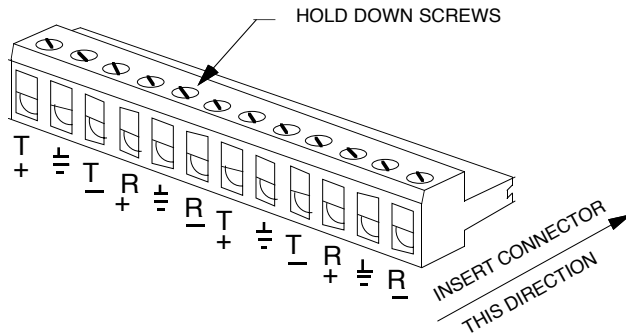

Figure 4 - Typical Mating Connector
Eight 12-pin connectors on the rear panel of the 2083/06 are used for transmitting and receiving codes with Pelco Intercept Domes. Each connector provides two separate RS-422 connections, for cameras that are within the selected camera number range of that group. The transmit (T) and receive (R) signal pins are labeled on each connector. Each connector is supplied with a mating screw terminal connector (Figure 4).